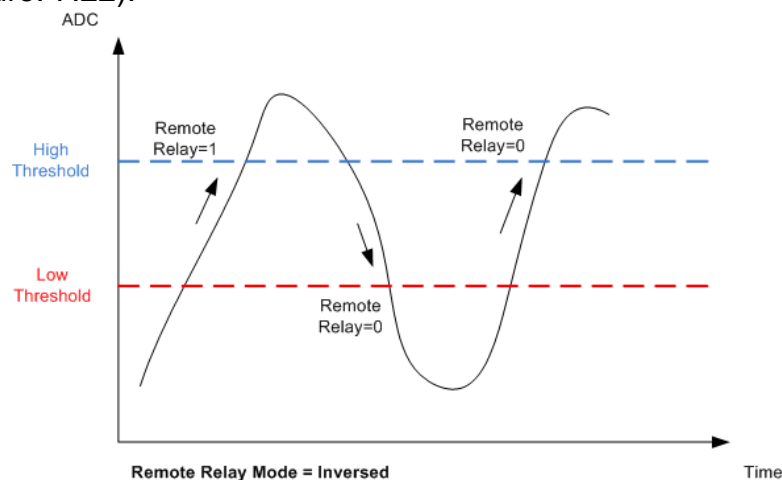

Figure 7.22. Controlling remote relay when **Remote Relay Mode** parameter is "Inversed"
- *Inversed* - when the rising analog input value crosses the **High Threshold**, the remote relay (digital output) will be ON (1). When the falling value crosses the **Low Threshold** the remote relay (digital output) will be OFF (0) (Figure. 7.22).